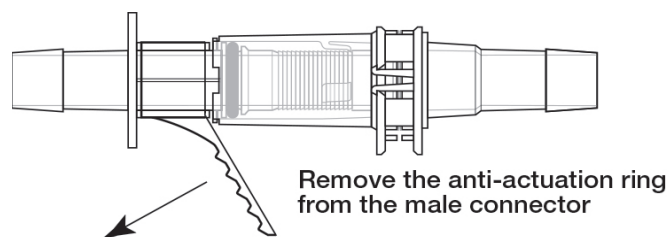

Figure 5.39. Removing the anti-actuation ring.
4. Support both the male and female Kleenpak connectors. Remove the anti-actuation ring from the male connector by pulling the tab toward the barbed end of the male Kleenpak connector (Figure 5.39).